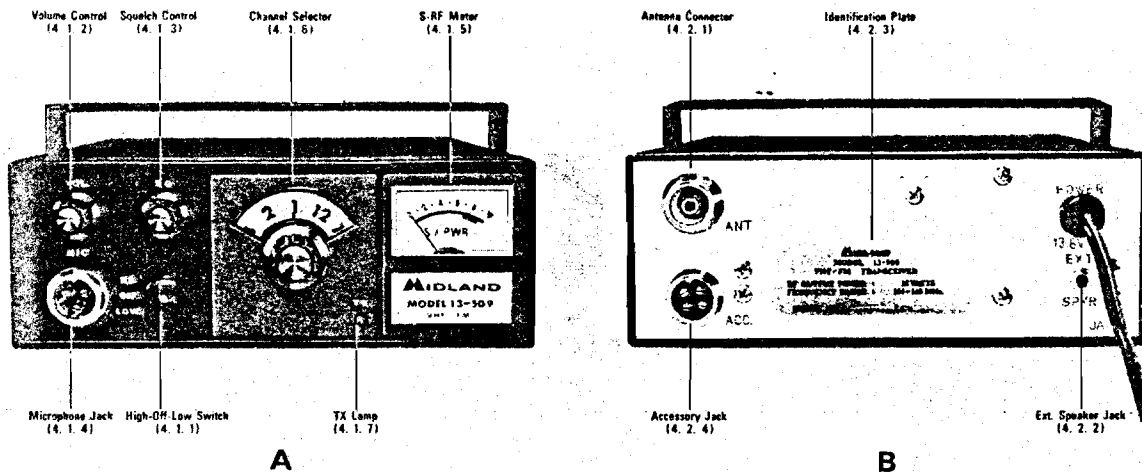

Figure 2
4. 1 Front control and jack (Fig 2-A)
4. 2 Rear Panel (Fig. 2-B)